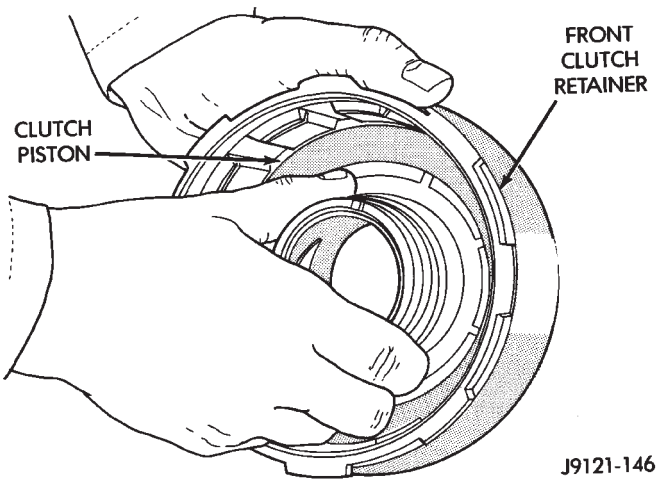

Fig. 136 Front Clutch Piston Installation
- (4) Install clutch piston in retainer (Fig. 136). Use twisting motion to seat piston in bottom of retainer. A thin strip of plastic (about 0.020" thick), can be used to guide seals into place if necessary.